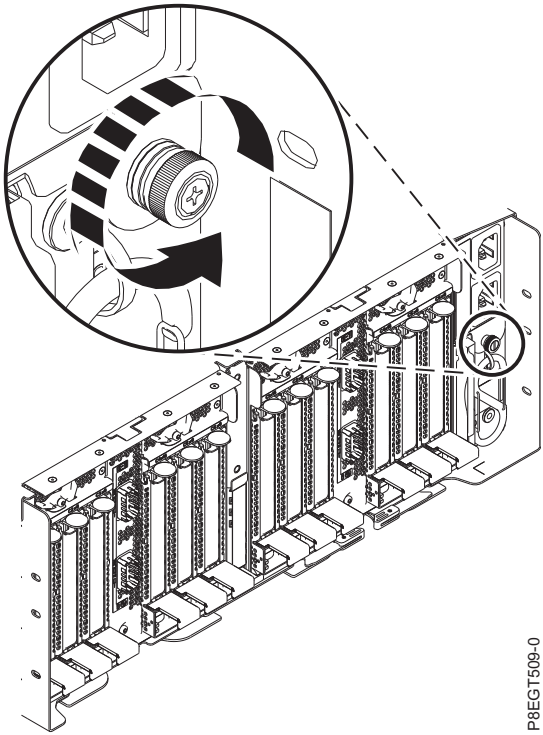

Figure 4. Loosening the retaining screw
g. Loosen the power supply conduit retaining screw as shown in Figure 4.